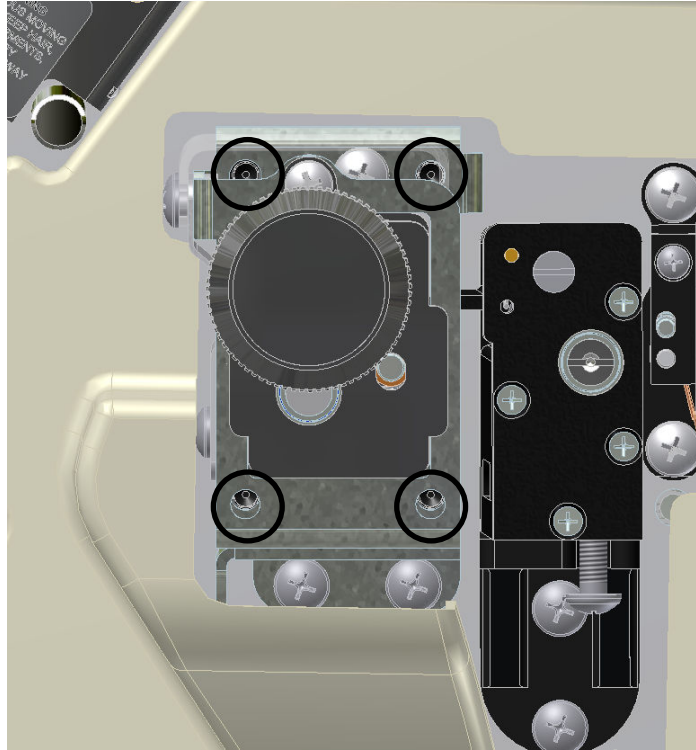

Figure 20a: Adjustment Set Screws
3. If there are no mechanical issues adjust Feed Assembly alignment by backing out adjustment set screws shown in figure 20a using a 5/32 allen wrench until they stop on Feed Assembly frame. Note this only needs to be done until screws touch assembly, too much force will bend assembly frame.
5. Continue backing out adjustment set screws shown in figure 20a based on direction stock needs to track. Backing out screws on left will track web more inward (used when stock tracks towards front of machine). Backing out screws on right will track web more outward (used when stock tracks towards machine).